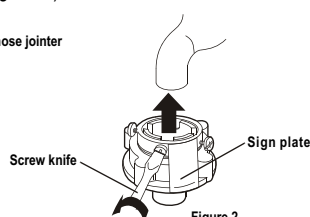
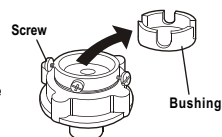

Figure 2
Figure 3
3. Extend the drain hose from the right side of base, fix the drain hose onto the base with the drain hose frame, and screw down the screws, put the hang hole onto the drain hose, then hang up the drain hose. (As indicated in Figure 3)
2. Loosen the screw till the water faucet can be accessed. Put the jointer of the water inlet hose on the faucet. See to Figure 2. (If the faucet is too large and the jointer can not be set on the water faucet, please loosen the four screws and take out the bushing in the jointer. The front end of the faucet must be smooth, otherwise it may leak water. See to Figure 3.)